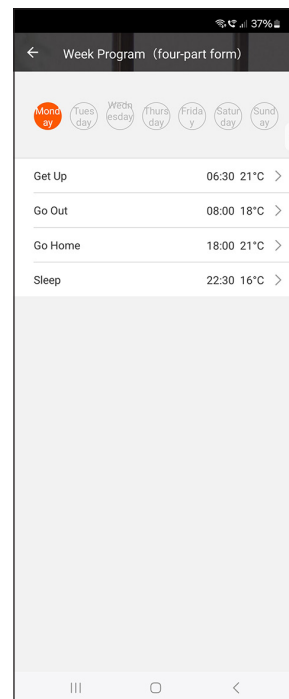

fig. 13
- Desired temperatures and times can now be scheduled for each day of the week (see fig. 13 and 14). Ensure that the temperature you set is higher than the current room temperature when turning the power on